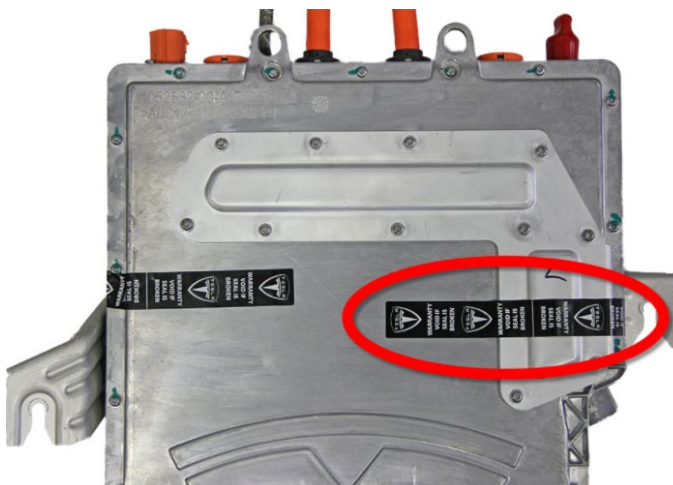

Figure 2
5. Remove and discard the warranty label from the charger access panel (Figure 2).